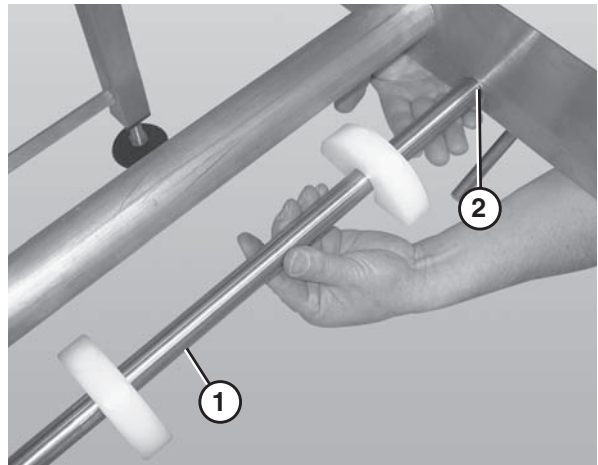

Figure 24
2. Slide the return shaft (Figure 24, item 1) up and through the large slot (Figure 24, item 2) in the frame (picture shown without the belt or wear strips).
3. Push up on the return shaft (Figure 24, item 1) and slide the notched end of the shaft through the small slot on the opposite side of the frame.